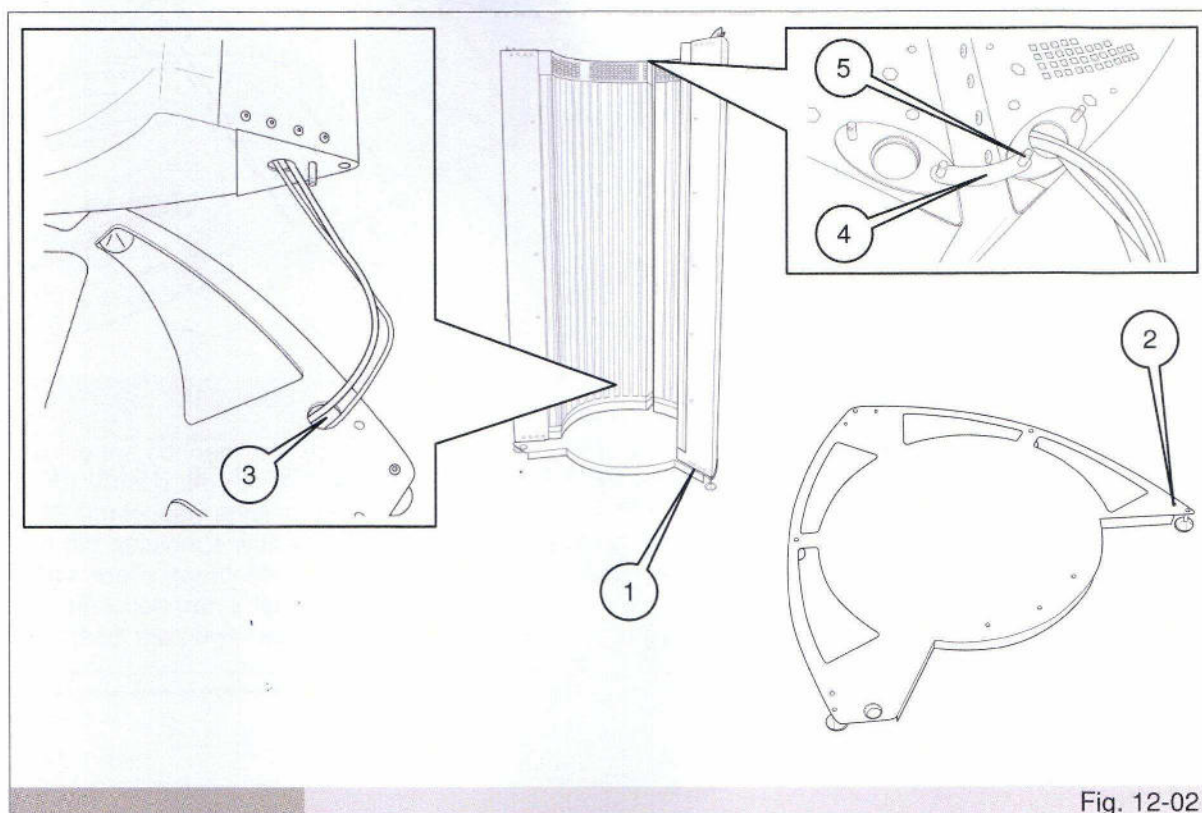

Fig. 12-02
- Position one wall at a time on the base, inserting the M8 supports at the base of each wall (ref. 1 fig. 12-02) in the relative holes in the base. The walls must be inserted from above and the cables should pass through at the top.
If the appliance is supplied with a vibrating plate (optional), remember to pass the plate's cables that leave the base of the left-hand wall through the relative hole (ref. 3 fig. 12-02) at the base of the appliance.
Attach the two walls to the base by screwing the relative M8 nuts onto their M8 supports using a spanner from under the base. The walls can be kept together during assembly by fitting the bracket (ref. 4 fig. 12-02), supplied in the accessory kit, on the M6 pins (ref. 5 fig. 12-02).